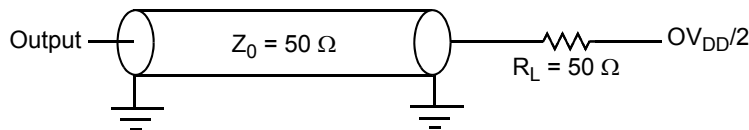

Figure 36. AC Test Load for the JTAG Interface
1. All outputs are measured from the midpoint voltage of the falling/rising edge of t_{TCLK} to the midpoint of the signal in question. The output timings are measured at the pins. All output timings assume a purely resistive 50-Ω load (see Figure 36). Time-of-flight delays must be added for trace lengths, vias, and connectors in the system.
2. The symbols used for timing specifications follow the pattern of $t_{(first\ two\ letters\ of\ functional\ block)(signal)(state)(reference)(state)}$ for inputs and $t_{(first\ two\ letters\ of\ functional\ block)(reference)(state)(signal)(state)}$ for outputs. For example, t_{JTDVXH} symbolizes JTAG device timing (JT) with respect to the time data input signals (D) reaching the valid state (V) relative to the t_{JTG} clock reference (K) going to the high (H) state or setup time. Also, t_{JTDVXH} symbolizes JTAG timing (JT) with respect to the time data input signals (D) went invalid (X) relative to the t_{JTG} clock reference (K) going to the high (H) state. Note that, in general, the clock reference symbol representation is based on three letters representing the clock of a particular functional. For rise and fall times, the latter convention is used with the appropriate letter: R (rise) or F (fall).
Figure 36 provides the AC test load for TDO and the boundary-scan outputs of the MPC8306.